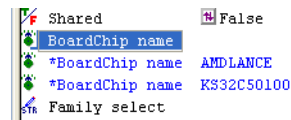

Figure 5-8 Setting up the EtherRouter.bcd
6. Select **AMDLANCE** from the context menu. A new setting is added to the right pane with an asterisk * beside it, shown in Figure 5-8.